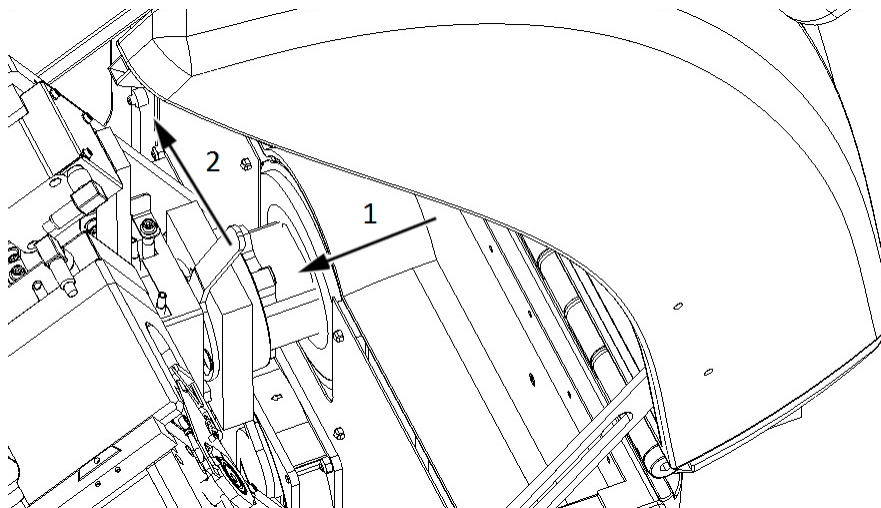

Figure 10 – Mounting the Lumencor SPECTRA 6 unit
5. Attach the Lumencor SPECTRA 6 unit so the contact surfaces at the mounting point are tightly compressed (see **Figure 10 – Step 1**).
6. Secure the locking lever by moving it to the left (see **Figure 10 – Step 2**). If the lever sticks at around the center position, apply a bit more pressure to the Lumencor SPECTRA 6 unit.